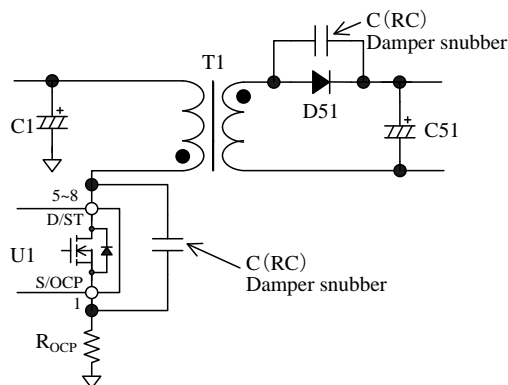

Figure 9-10 Damper snubber
In addition, if a C (RC) damper snubber of Figure 9-10 is used, reduce the capacitor value of damper snubber.